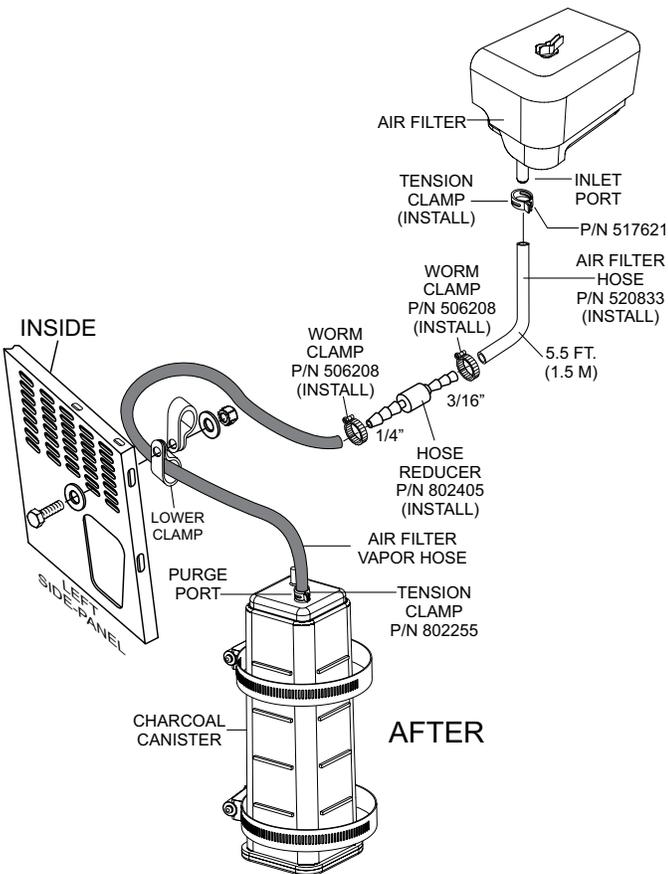

Figure 16. Hose Reducer Installation
- Route one end of the air filter vapor hose thru the newly installed lower rubber coated hose support clamp on buggy left-side panel (Figure 16), then connect it to the **purge port** on the charcoal canister using tension clamp (P/N 802255).
The hose reducer (Figure 16) is required to provide a better connection using the provided 3/16" hose to the air filter inlet port.